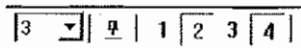

Figure 8.26: Selection of index and frames in the analyzer of the signal processor
4. If you have selected and pasted several scan points and want to display the data for a single scan point, select it in the index in the signal processor analyzer (refer to FIGURE 8.26).
5. If you want to display certain frames for the selected scan points, click the number of the particular frames in the analyzer of the signal processor. After calculating you can display an individual graph for every frame (refer to FIGURE 8.26 and SECTION 8.6.3).